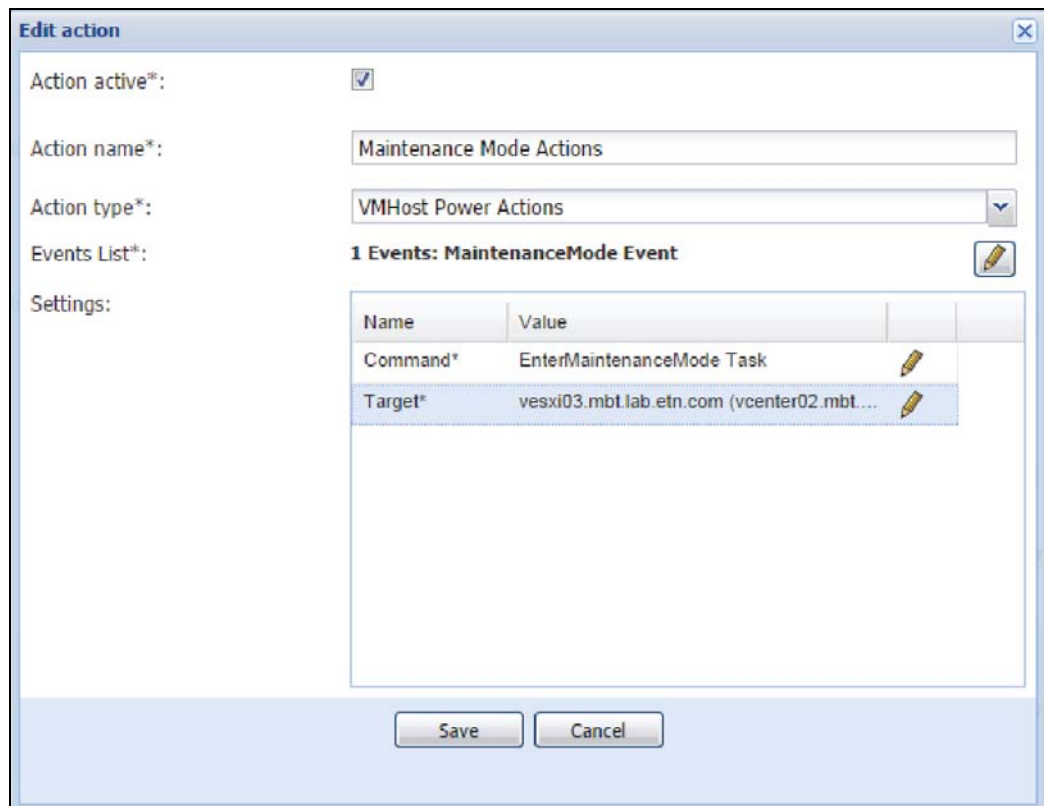

Figure 248. Select Target on Edit Action
9. From the Edit Action screen, select the command, "EnterMaintenanceMode" (see Figure 248).